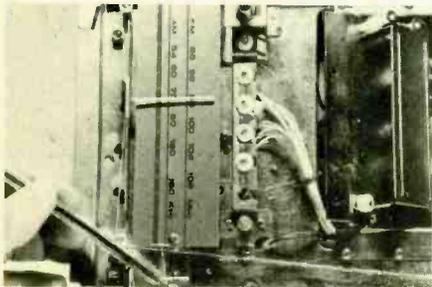

Fig. 1. The base of the tuning shaft is the best place to start looking for a source of slippage in the tuning dial cord assembly.
**Slip-Slide, Slipping Dial.** Most dial cord slippage occurs at the tuning control knob and shaft (Fig. 1). If the dial cord sticks at one end and won't move or slides erratically across the dial as-